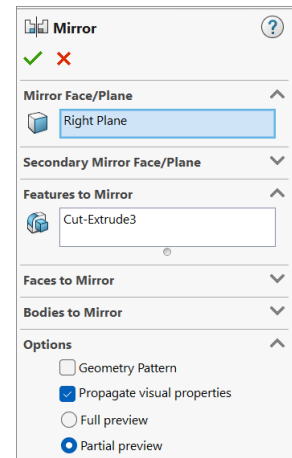

Fig. 54
- Step 3. In the Mirror Property Manager click OK  , **Fig. 54**.